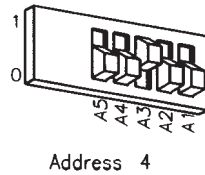

Figure 7-1.
- b. Set the address switches to 4 as shown in Figure 7-1, unless address 4 has been used elsewhere. Refer to the manual that came with the printer if you need additional switch settings.